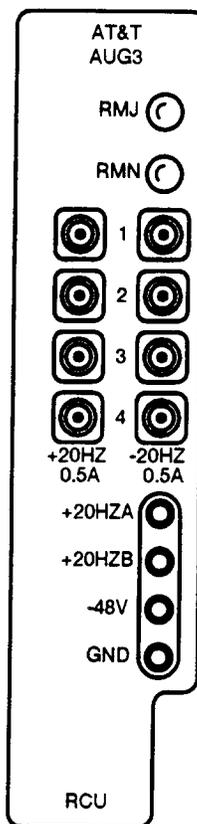

Figure 1 — Ring Control Unit (AUG3) Faceplate
1. Get one **AUG3 RCU** (Figure 1) and inspect for possible physical damage.